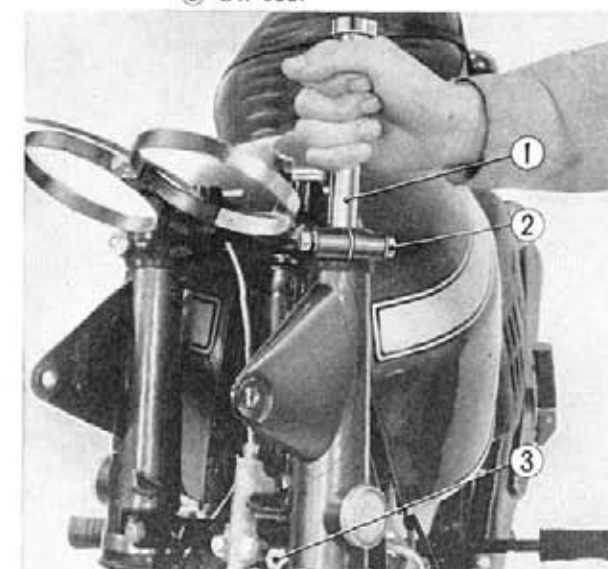

Fig. 11-20 ① Front fork assembling bar
3. Install the front fork upper cover on the steering stem (above and below the cushion rubbers) and insert the front fork pipe assembly through the steering stem, and temporarily tighten with the 10mm front fork setting bolt. (Fig. 11-20)